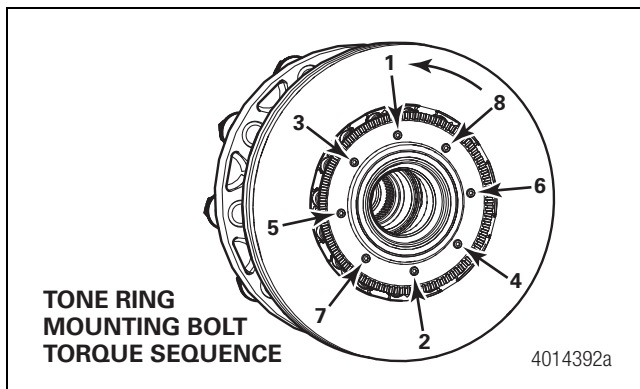

Figure 6.7
3. Install and tighten the tone ring mounting bolts in a cross pattern as shown in Figure 6.7. Refer to Section 9 for torque specifications. Retighten starting at the bolt at the end of the sequence. Continue the hub assembly and installation in this section.